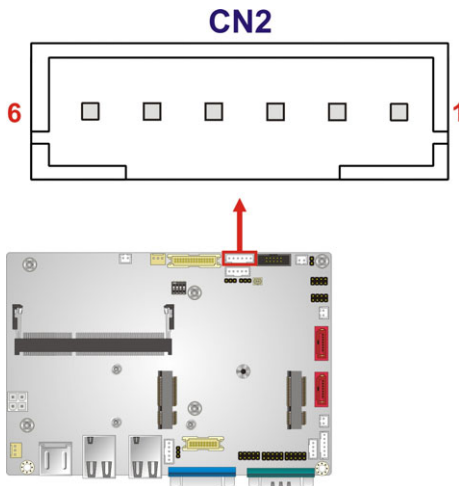

Figure 3-14: Power & HDD LED Connector Location
- CN Location:** See **Figure 3-14**